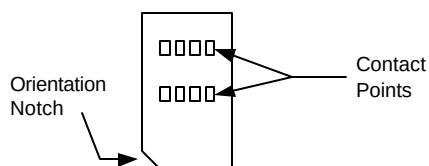

Figure 1. AT&T Wireless Mobile Internet Plan SIM Card
- The orientation notch on the card is used as a reference for inserting the card into the phone (see Figure 1).
- Contact points on the card are used to make a connection with the device (see Figure 1).